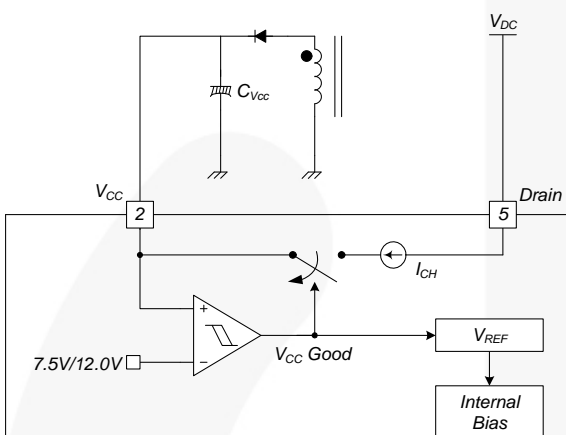

Figure 17. Startup Block
**1. Startup:** At startup, an internal high-voltage current source supplies the internal bias and charges the external capacitor ( $C_{VCC}$ ) connected to the  $V_{CC}$  pin, as illustrated in Figure 17. When  $V_{CC}$  reaches 12V, the FSL156MRBN begins switching and the internal high-voltage current source is disabled. Normal switching operation continues and the power is supplied from the auxiliary transformer winding unless  $V_{CC}$  goes below the stop voltage of 7.5V.